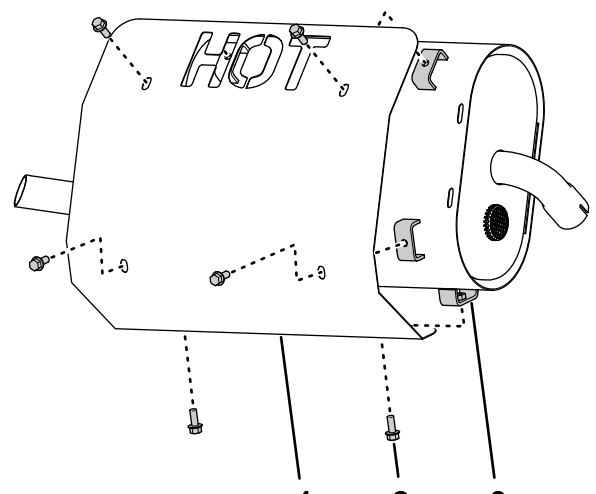

Figure 7
1. Align the holes in the heat shield with the weld nuts in the shield supports of the muffler (Figure 7).
2. Assemble the shield to the muffler (Figure 7) with 6 flanged-head bolts (1/4 x 5/8 inch).